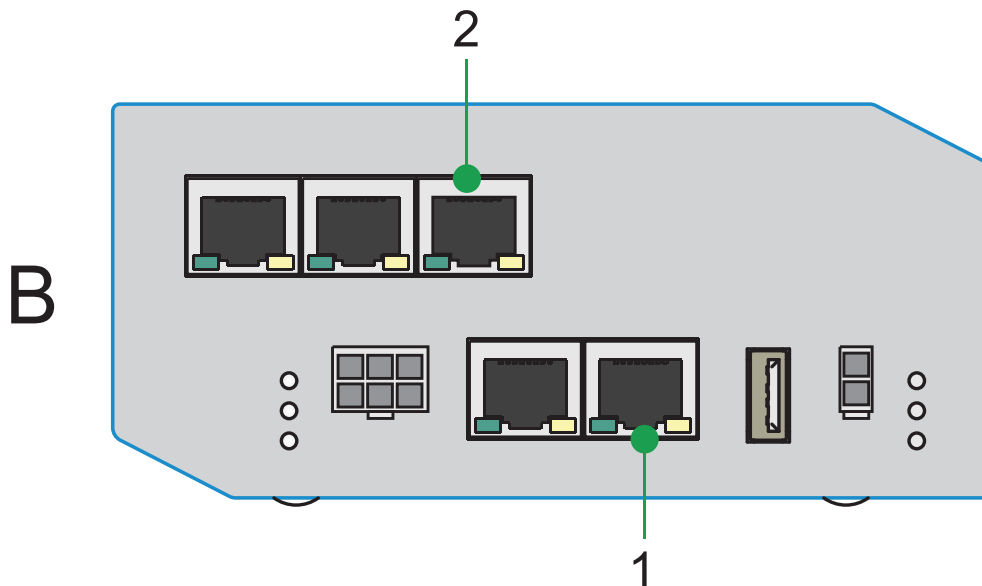

Fig. 24 Connecting the VPN-router, case B
B: AlsoEnergy devices (2) and customers router(1) in two different networks (refer to Fig. 24 below).